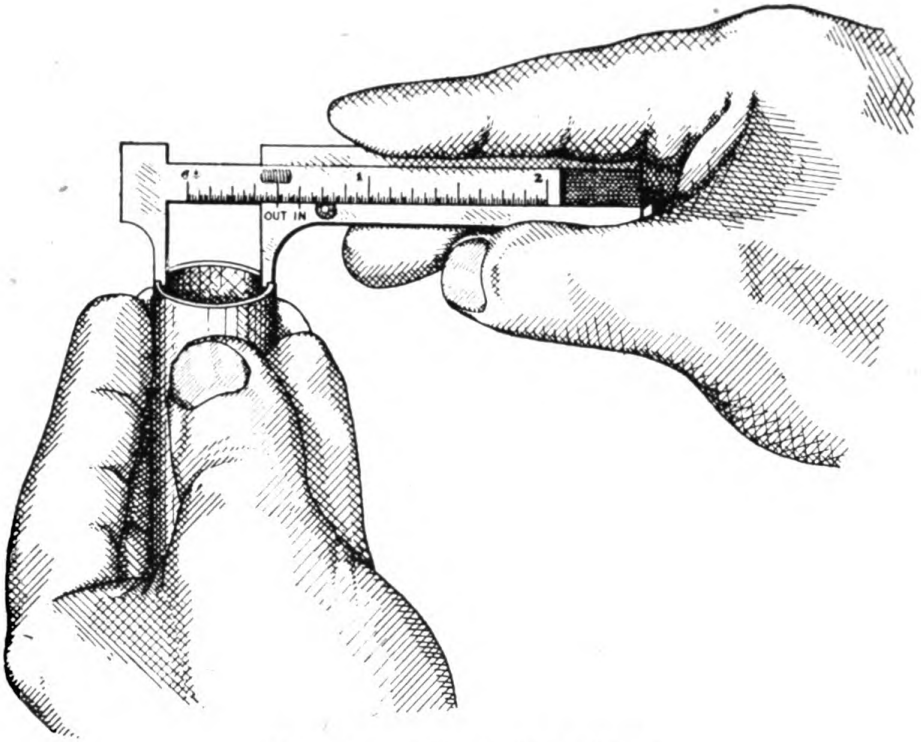
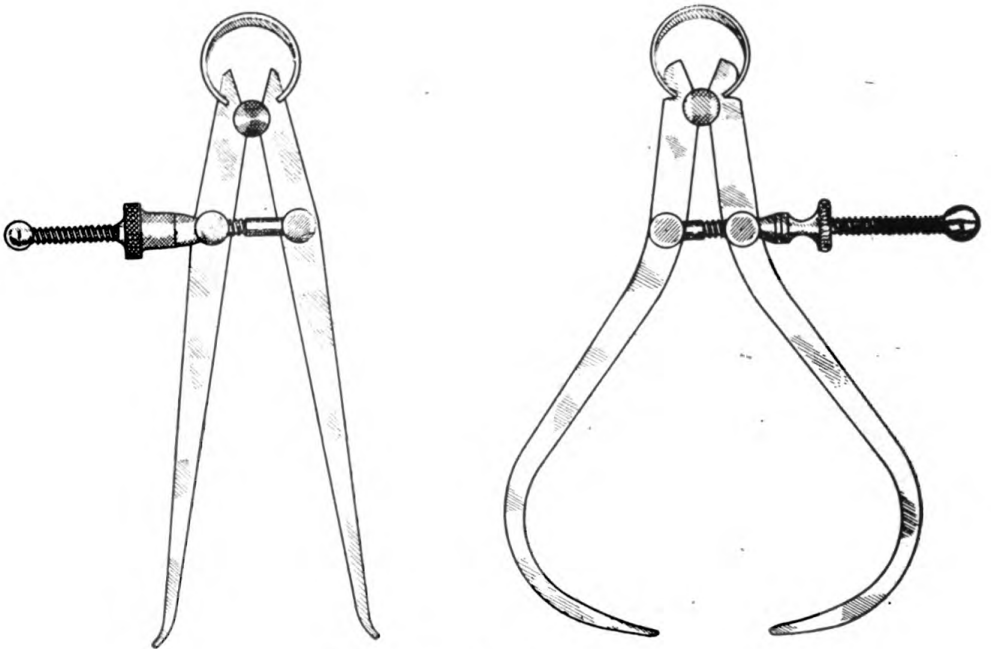
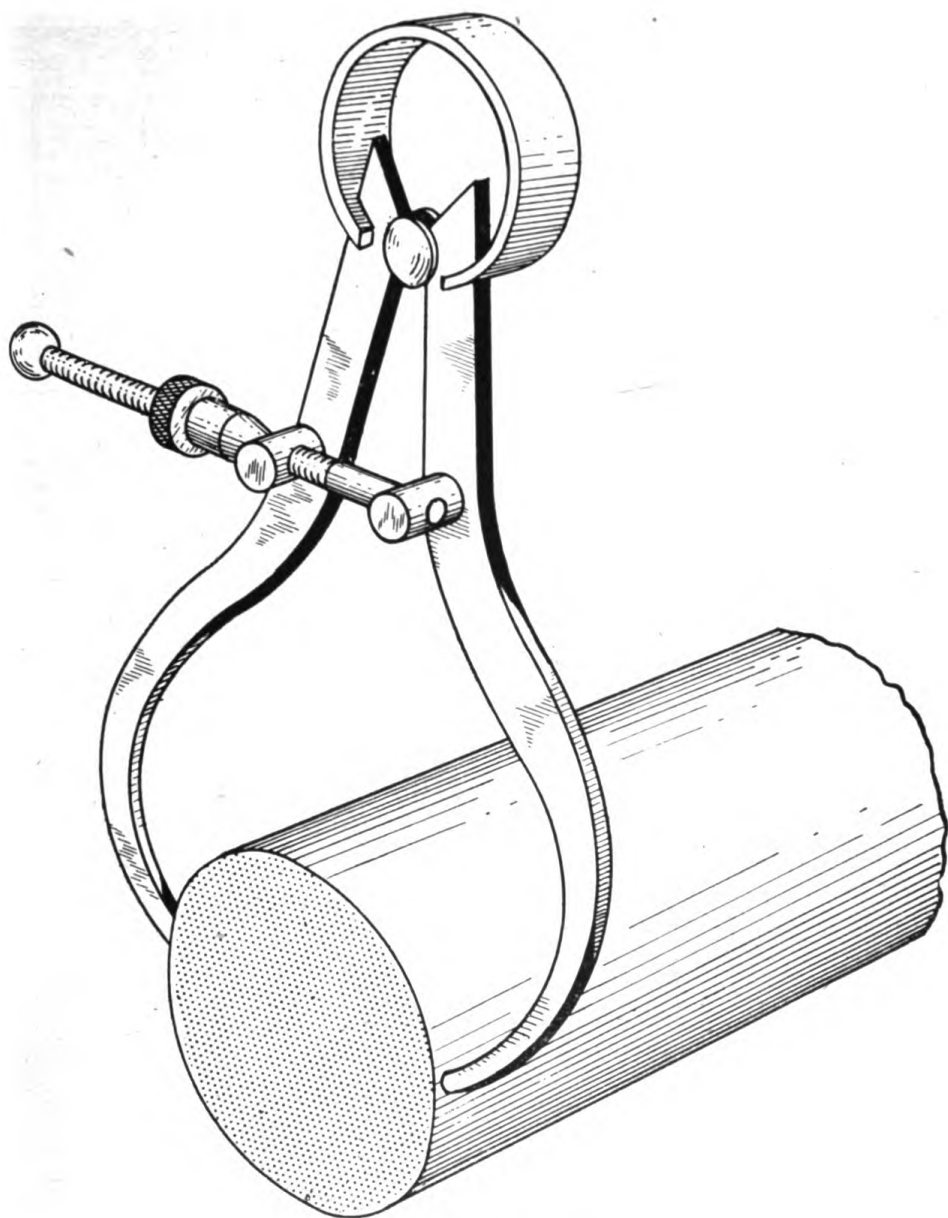

Figure 65. Using sliding calipers.
Figure 66. Spring calipers.
Figure 67. Spring calipers in use.
*b. SLIDE POCKET CALIPERS.* (1) These calipers (also called sliding calipers) have a fixed jaw fastened to the end of a bar and a movable jaw fastened to a frame which slides on this bar. (See fig. 65.) The bar has a scale on it and the frame has two index marks labeled "In" and "Out." One side of the jaws is made to take outside measurements. The other side of the jaws is made to take inside measurements.
(2) To measure the outside diameter of a round bar or the thickness of a flat bar, the jaws of the calipers are opened and placed over the stock. The movable jaw is then slid forward until the jaws just touch the stock. The calipers may then be removed and the dimension opposite the "Out" index mark can be read. To take an inside measurement, the jaws are placed inside and spread apart until they just touch the stock. The dimension may then be read as before, using the "In" index mark. Sliding calipers should be kept clean and oiled. They should never be jammed tightly on the stock. If they are, the jaws are likely to be sprung and the calipers will be ruined.
*c. SPRING CALIPERS.* Spring calipers are shown in figure 66. They have no scale and are used only to transfer dimensions. They are quite often used on lathe work. By adjusting them to the proper position, they may be used to determine when sufficient stock has been cut away. (See fig. 67.) Spring calipers should not be used when the stock is moving, nor should they be forced on the stock. They will probably not be damaged, but they will spring slightly and give an inaccurate measurement.